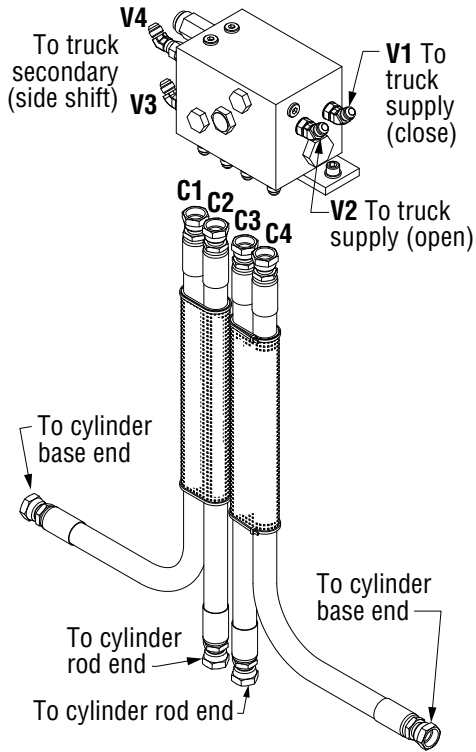

Figure 5-12, Hydraulic Valve
2. Disconnect the hydraulic hoses from the truck at the attachments valve ports V1 (open) and V2 (close). (Figure 5-12) Cap hose ends to prevent contamination and tag for reassembly.